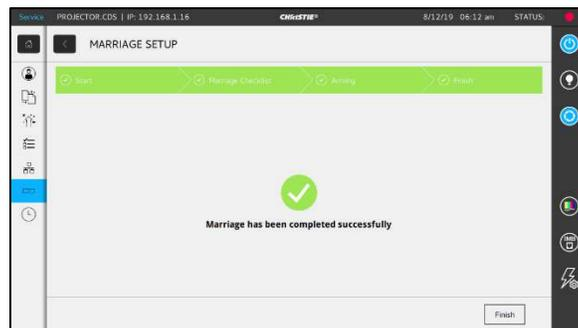

Figure 33: Marriage Successful
9. Close the wizard once the “Marriage has been completed successfully” message is shown, by clicking on the **Finish** button (as shown in **Figure 33**).